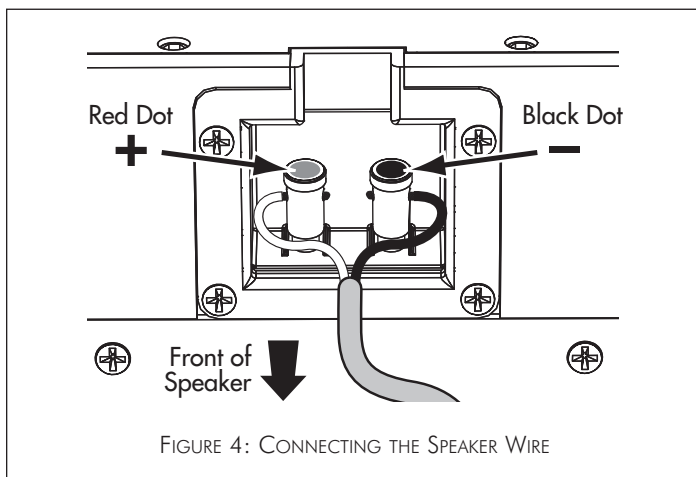

FIGURE 4: CONNECTING THE SPEAKER WIRE
- The speaker's positive post is labeled with a red dot; the negative post is labeled with a black dot. Double-check that you connected amplifier "+" to speaker "+" and amplifier "-" to speaker "-". (See Figure 4.)